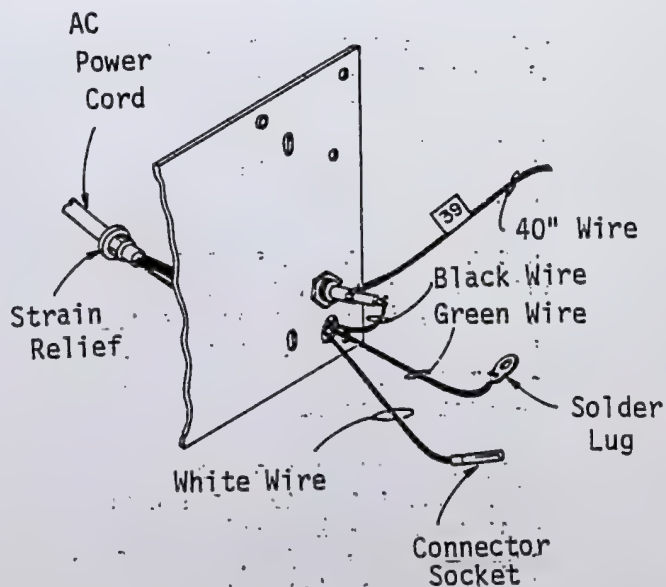

Figure 5-54. AC Power Cord Installation
5-63. AC POWER CORD (Figure 5-54)
2. Put the strain relief (Bag 2) on the cord and position it as shown in Figure 5-54.